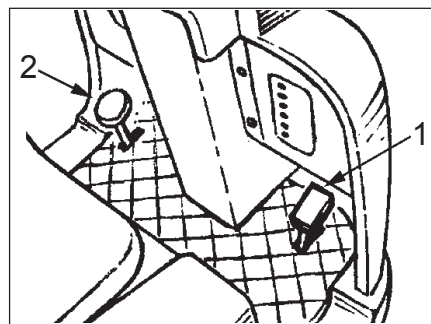

Figure 4
2. The machine will traverse when the accelerator pedal is pressed (see figure 4, item 1).
Brakes (see figure 4).
The machine is equipped with an electronic braking system. The electronic braking is activated automatically when the foot is removed from the acceleration pedal (see figure 4, item 1).
If the electronic braking system is not working properly or you must come to an emergency stop, use the mechanical brake pedal located on the left side (see figure 4, item 2). With your foot, push downwards on the mechanical brake pedal.